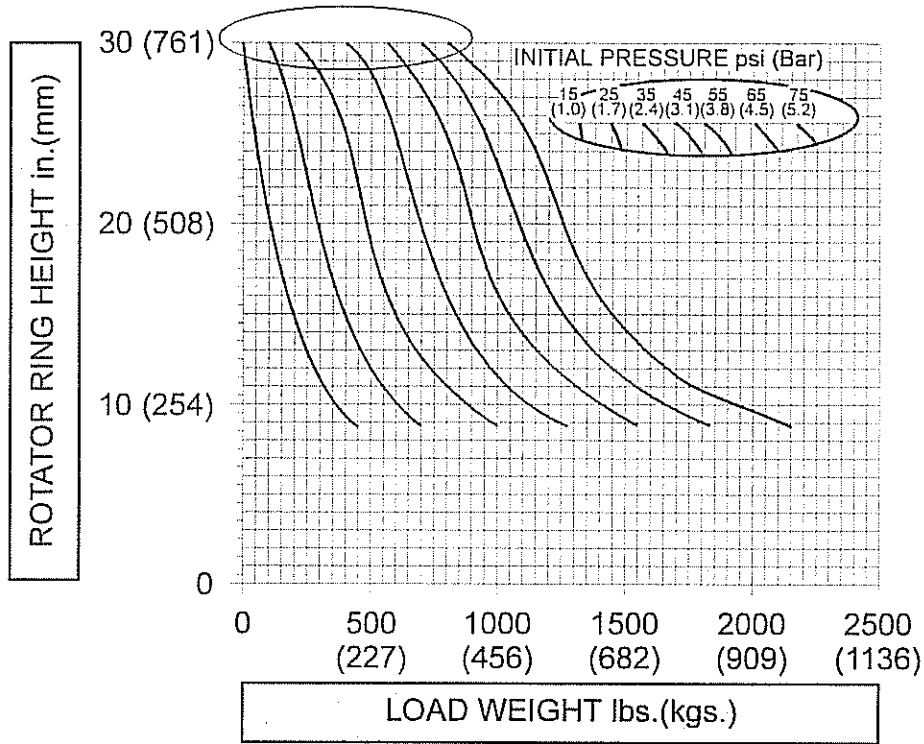

Figure 8 EZ-30 Height vs. Load Diagram
The load capacity and height of the EZ Loader is determined by the initial system pressure in the raised position. The initial pressure is completely variable and for most applications should be between 15 psi (1.0 Bar) and 75 psi (5.2 Bar) for the EZ-30 and between 19 psi (1.3 Bar) and 65 psi (4.5 Bar) for the EZ-45. An initial pressure less than the minimum stated above can be used; however, the EZ Loader will not extend to its maximum height. Diagrams of the rotator ring height as it relates to the load weight for EZ-30 and for the EZ-45 are shown in Figures 8 and 9 respectively. To demonstrate how the EZ Loader's performance changes as the initial pressure is increased, a total of seven (7) performance curves are presented with each diagram. These curves correspond to various initial pressures for each model. For most applications the EZ Loader should be completely collapsed at approximately 75 percent of the total load (load + pallet weight). The remaining load (usually the last layer) is added to the EZ Loader while it is in the collapsed position. To set-up the EZ Loader for use, complete steps 1-7 on page 10.